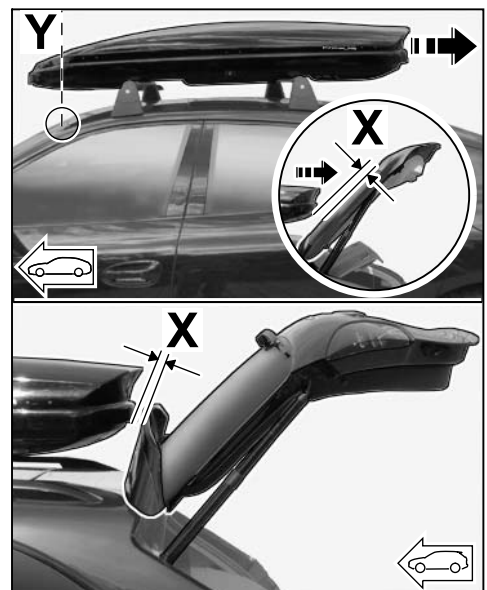

Figure 6
4.8.3 Carefully open the rear lid/tailgate of the vehicle and adjust gap "X" with respect to the roof box 320 (⇒ *Figure 6*).